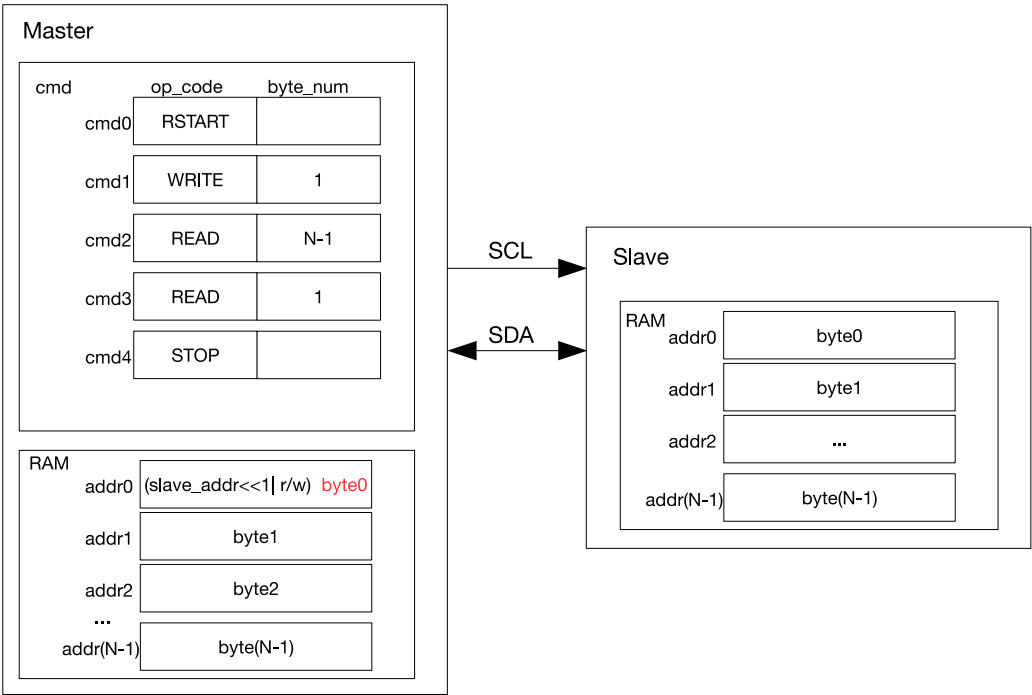

Figure 21-10. I2C_{master} Reading I2C_{slave} with a 7-bit Address
Figure 21-10 shows how I2C_{master} reads N bytes of data from an I2C slave's registers or RAM using 7-bit addressing. cmd1 is a WRITE command, and when this command is executed, I2C_{master} sends I2C_{slave} address. The byte sent comprises a 7-bit I2C_{slave} address and a R/\overline{W} bit. When the R/\overline{W} bit is 1, it indicates a READ operation. If the address of an I2C slave matches the sent address, this matching slave starts sending data to I2C_{master}. I2C_{master} generates acknowledgements according to ack_value defined in the READ command upon receiving a byte.
As illustrated in Figure 21-10, I2C_{master} executes two READ commands: it generates ACKs for (N-1) bytes of data in cmd2, and a NACK for the last byte of data in cmd3. This configuration may be changed as required. I2C_{master} writes received data into the controller RAM from addr0, whose original content (a I2C_{slave} address and a R/\overline{W} bit) is overwritten by byte0 marked red in Figure 21-10.
1. The procedures for Segment0 is similar to Figure 21-10, except that the last command is an END.